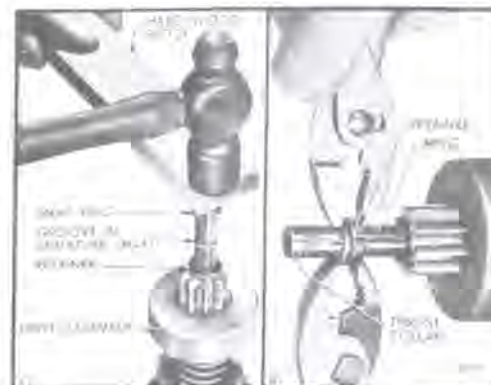

Figure 68-23--Pinion Stop Retainer and Snap Ring Installation
5. Place a new snap ring on drive end of shaft and hold it in place with a hard wood block. Strike block with hammer to force snap ring over end of shaft, then slide the ring down into groove in shaft. See Figure 68-23, View A.
6. Place thrust collar on shaft with shoulder next to snap ring, and move the retainer into contact with ring. Using pliers on opposite sides of shaft squeeze retainer and thrust collar together until snap ring is forced into the retainer. See Figure 68-23, View B.